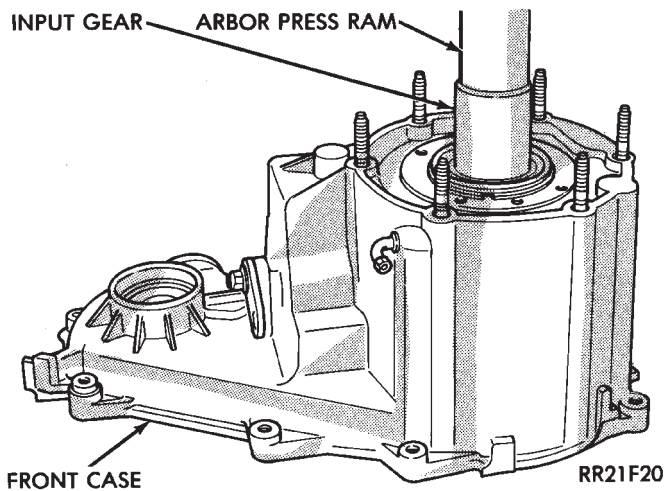

Fig. 25 Removing Input And Low Range Gear Assembly
(37) Press input and low range gear assembly out of input gear bearing with shop press (Fig. 25).